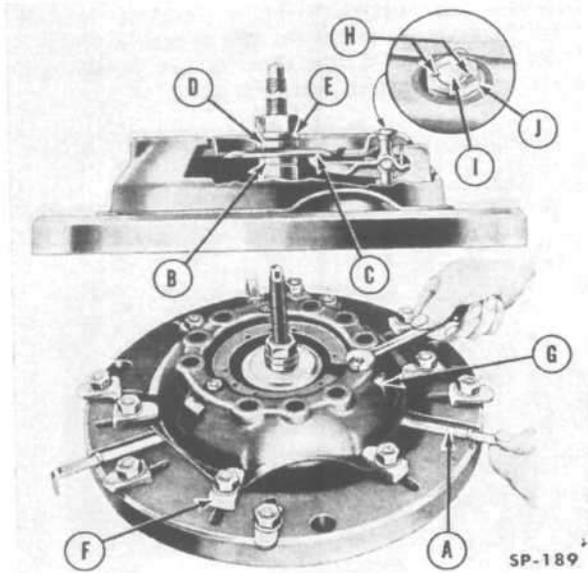

FIG. 185—ADJUSTING PRESSURE PLATE LEVERS
- d. Position the pressure plate and cover on the C-585-C fixture so that the pressure plate levers are directly over the feeler blades of the fixture (A, Fig. 185). Install the three-legged spider, washer, and nut on the fixture centering screw and tighten down until the cover is seated on the fixture base and the three eyebolts protrude above the cover.
- g. Install the thickness spacer C-585-20 (B, Fig. 185), compression plate (C), self-aligning washer (D), plain washer (E), and the nut on the centering screw of the fixture.
- i. Adjust the pressure plate levers (G, Fig. 185) by turning the eyebolt nuts down until each of the three feelers (A) has the same slight drag or "feel" when pushed in and out. When the proper adjustment is made, stake the bolt and nut (H, I, and J, Fig. 185) and remove the clutch from the fixture. The clutch assembly is now ready for installation.